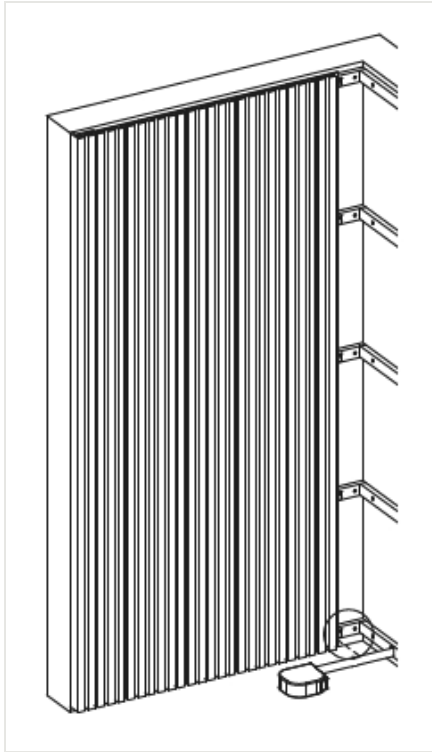

FIG. 10 - MEASURE BATTEN-TO-BOARD DISTANCE
- 01 At the last board toward the inside corner from the end trim, measure and record the distance between the adjacent batten and the board (fig. 10).